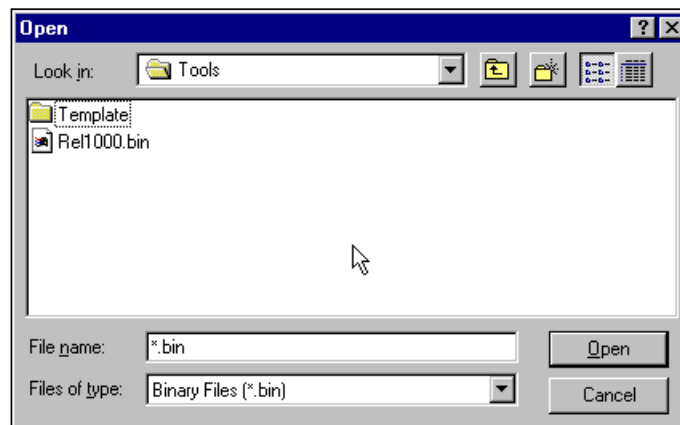

Figure 276. Open dialog box
2. Tab to the Select File button, and press **Enter** to display the Open window as shown in Figure 276.